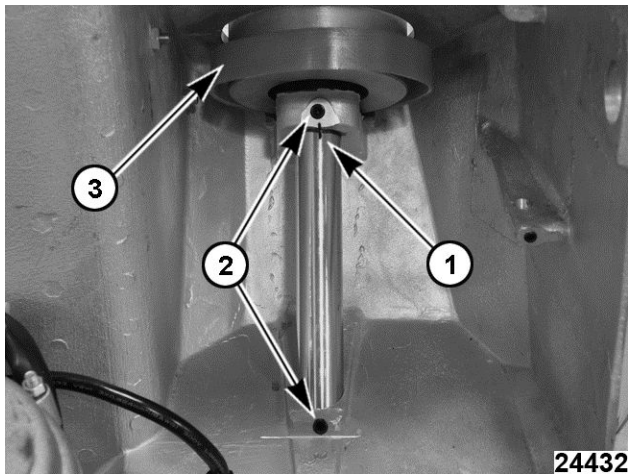

Fig. 44
6. Loosen the knife pulley assembly set screws (2, Fig. 44).